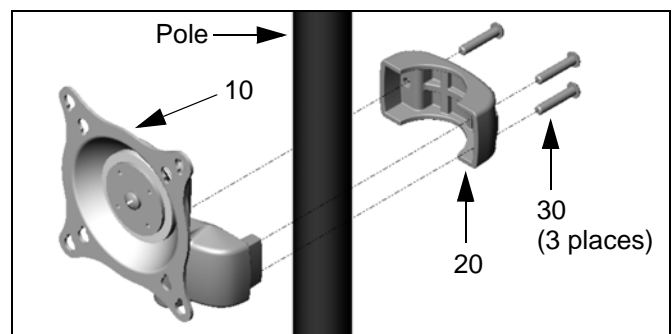

Figure 9: Pole Mount Installation
3. Place mount (10) against pole, with clamp (20) on opposite side of pole (See Figure 9). Using 5/32" hex key, loosely assemble with screws (30).